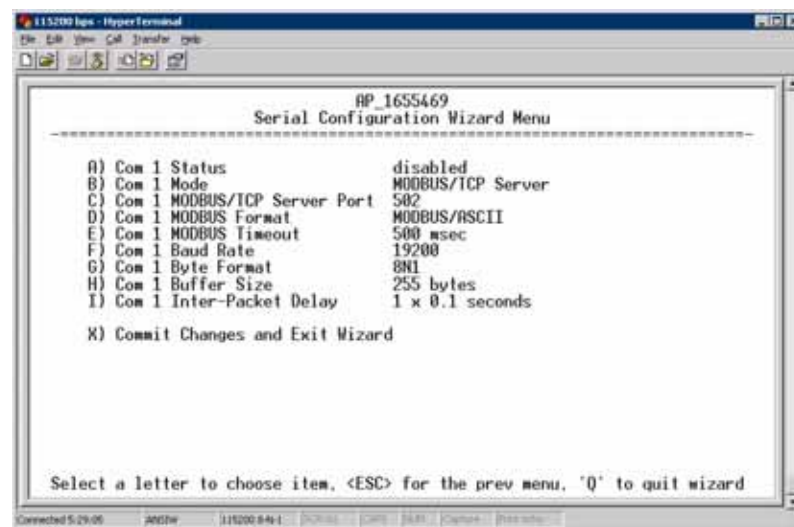

Figure 3-59. Serial Configuration Summary Screen
8. Review all settings on the summary screen shown in Figure 3-59. If all settings are correct, press **X** to confirm and exit the wizard. If not, select the letter of the item(s) you wish to change.